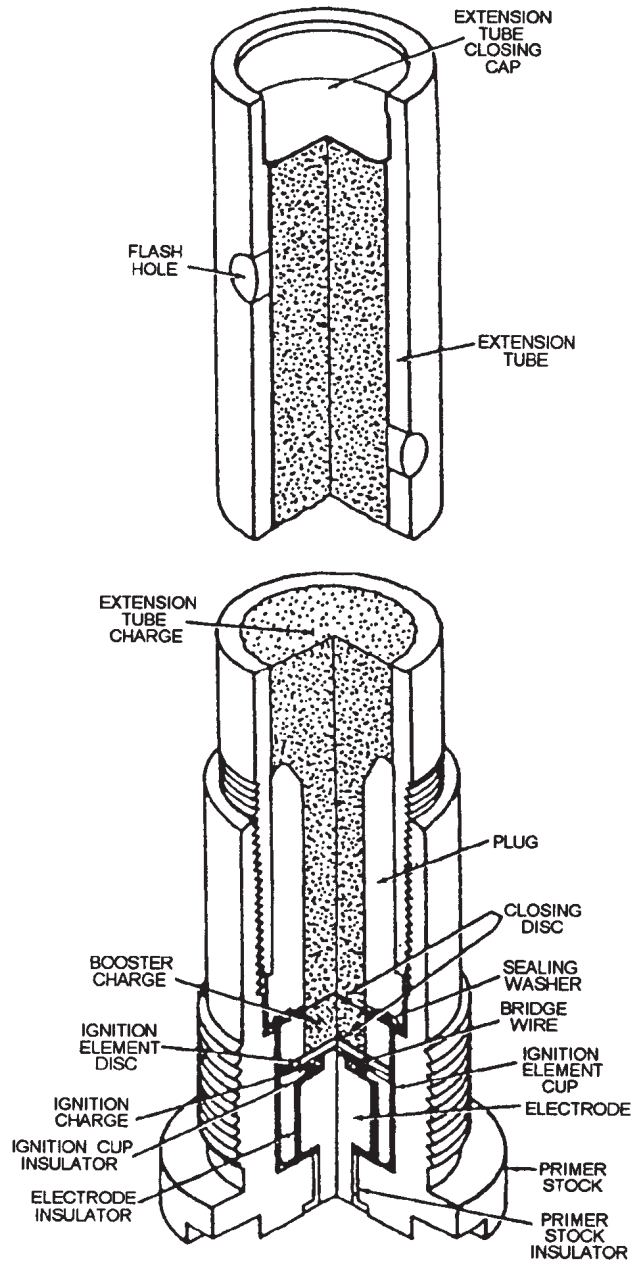

Figure 1-2.—Typical case electric primer.
The large quantity and relatively slow burning rate of gun propellant requires the use of another type of explosive train. The small flame produced by the initiating charge is insufficient to ignite the propellant grains thoroughly to produce an efficient burning rate of the entire charge. An explosive train consisting of an initiating charge, usually a mixture of lead styphnate and nitrocellulose (NC), detonates to ignite a small black powder booster which, in turn, ignites the larger black powder igniter. The black powder igniter is contained in the extension tube. Figure 1-2 shows a typical electric primer used in a propelling charge. The primer extension tube of a 5"/54 powder charge is approximately 20 inches long, contains 52 grams of black powder, and has 32 vent holes.